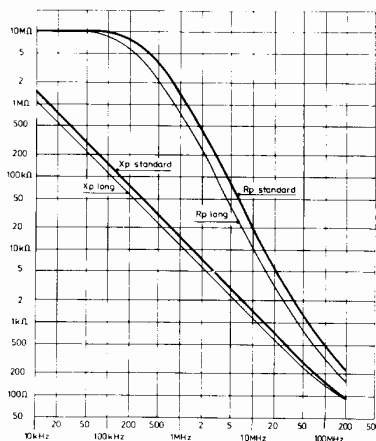

Fig. 3.26. Input resistance (R_p) and reactance (X_p) versus frequency.
a.c.	See curve Fig. 3.26.
Input resistance h.f.	See curve Fig. 3.26.